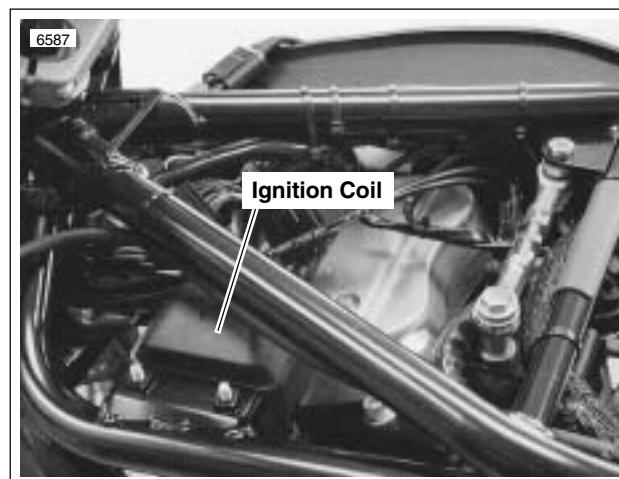

Figure 4-77. Ignition Coil Location
1. See Figure 4-77. Attach coil to frame with screws and washers. Tighten to 4-6 ft-lbs (5-8 Nm).